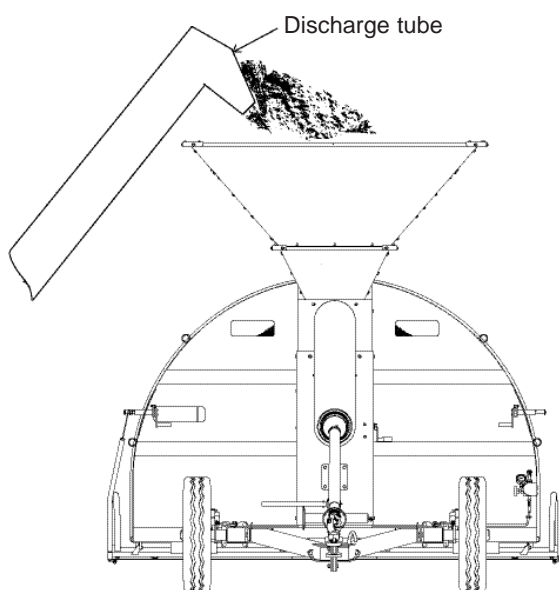

Figure 19 - Discharge tube position
1) Prepare the vehicle that will supply the grain to be bagged (usually a self-unloading grain cart). This vehicle's discharge tube should be arranged as shown in Figure 19. The grain entering the bagging machine should fall as directly as possible into the centre of the receiving hopper. Otherwise, grain might hit the opposite side of the hopper and spill out.